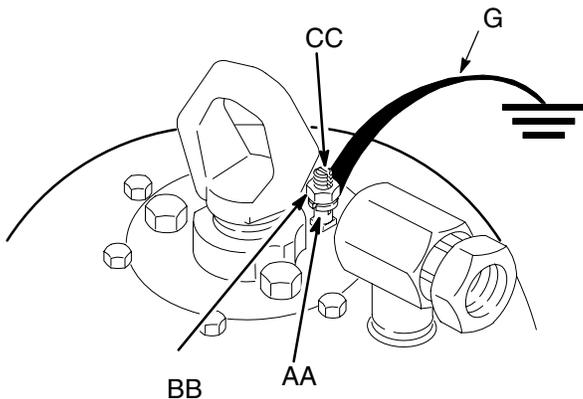

Fig. 3
- a. Loosen the grounding lug locknut (BB) and washer (AA).
- b. Insert one end of a 14 ga. (1.5 mm²) minimum ground wire (G) into the slot in lug (CC) and tighten the locknut securely. See Fig. 3.